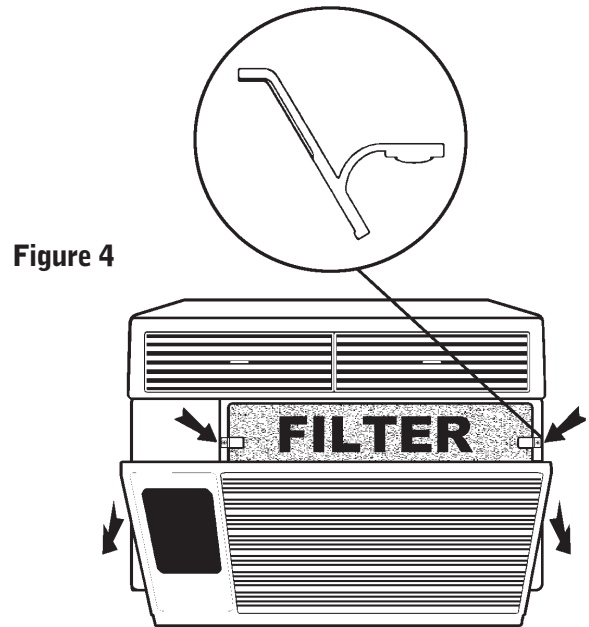

Figure 4
Open the return air (RA) grille by grasping it at the top outside edges and pulling towards you (See Figure 4). The RA grille will stay open until it is detached or closed (it is easier to completely detach the grille before closing it). To remove the RA grille, grasp it at the bottom and pull towards you.
The filter is held in place by two spring clips (See Figure 4). Push down on the clips, grasp the filter and pull towards you to remove it for cleaning. Clean with warm water and a mild detergent, rinse, dry completely and replace. **Use caution when removing the filter. The internal metal components are sharp.**